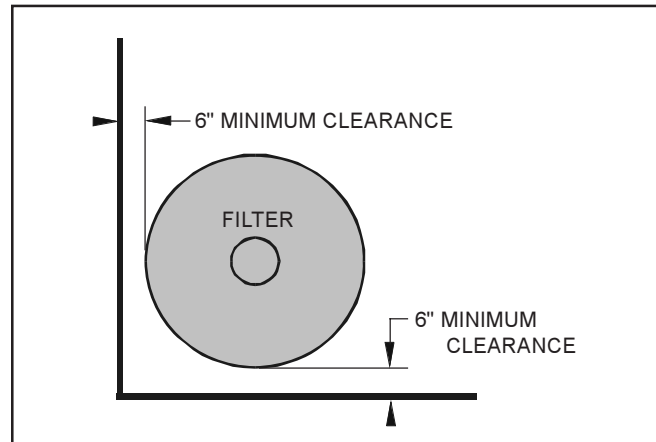

Figure 3- Filter Location
3. Install electrical controls at least five (5) feet from the filter. This will allow enough room to stand away from the filter during start-up.
4. **Applies to C series only:** Allow sufficient clearance around the filter to permit a visual inspection of the clamp ring (see Fig. 3).